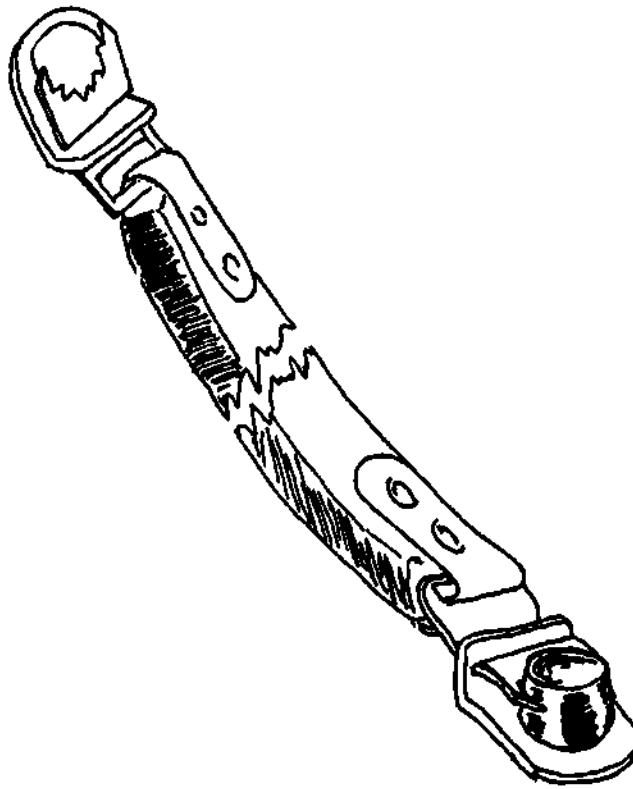

Fig 1-57. Battery carrying strap.
- (5) Carrying strap (fig 1-57). The carrying strap will fit all batteries. It enables you to keep the battery away from your clothes. Some batteries are equipped with handles (fig 1-58A) and others are not (fig 1-58B). The strap is very useful when a battery must be removed from a battery compartment since batteries are normally installed very close together. For this reason batteries, as well as tools, should not be carried on the seats of vehicles (fig 1-59). Acid will cause extreme deterioration.